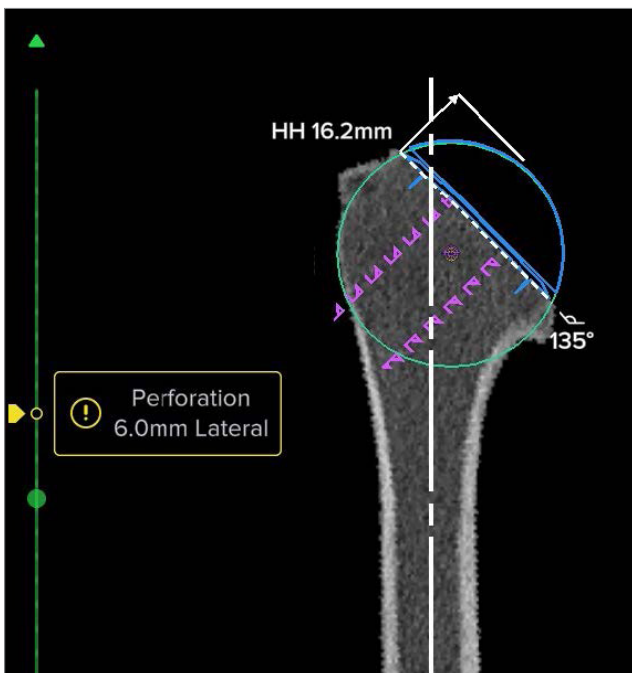

Figure 60. Eclipse cage screw perforation warning
- In the event that the user selects an implant or positions the implant so that it that violates the humeral cortex a perforation warning will appear in the left pane of the “Humeral Viewer” page. A yellow flag will appear along the green slider bar to the left of the 2D image referencing the CT slice that shows the perforation (Figures 60 and 62).